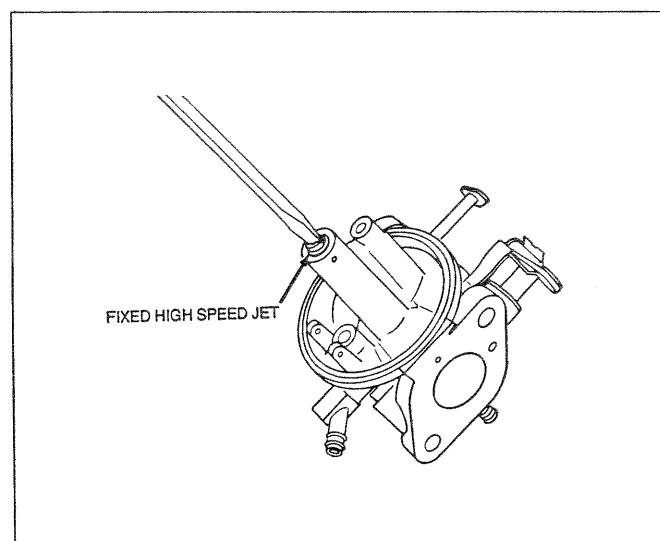

Figure 128. High Speed Jet Removal
- Remove the fixed high speed jet (Figure 128).